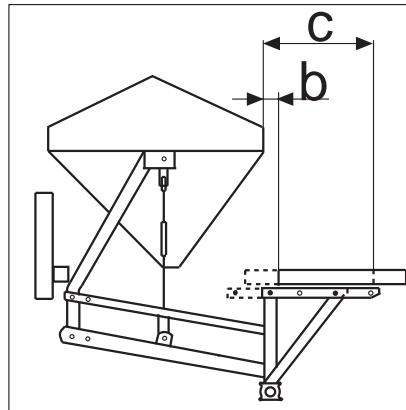

Fig. 24-10
4. Insert the hinge plates into the oblong holes of the angle sections (2) of the supporting brackets. The clearance "b" between the front edge of the platform and the hopper **must not exceed 100 mm** (see fig. 24-10). The safety grating and the angle sections may also be fitted further forward in the direction of travel (see dotted lines in fig. 24-10) provided that the remaining depth of the platform (dimension "c") measures **at least 400 mm**.